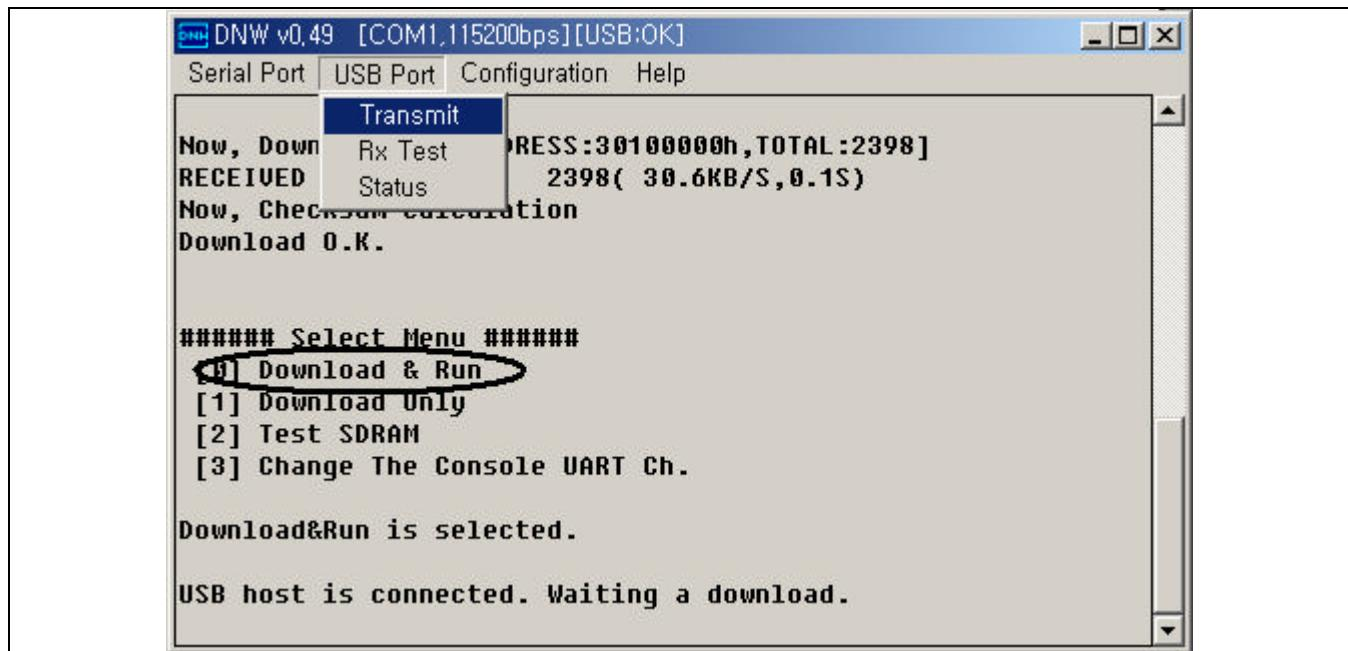

Figure 3-9. DNW Window (File Open Dialog Box)
9. For downloading 2410test program, select Download & Run item on the DNW window and download 2410test program like step 7 (See Figure 3-9).